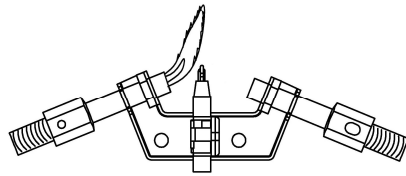

Figure 16 - Incorrect Pilot Flame Pattern
- Figure 16 shows an incorrect pilot flame pattern. The incorrect pilot flame is not touching the thermocouple. This will cause the thermocouple to cool. When the thermocouple cools, the heater will shut down.
- If the pilot flame is incorrect, as shown in Figure 16. Turn heater off (see To Turn Off Gas to Appliance, page 16) See troubleshooting, page 19~21.